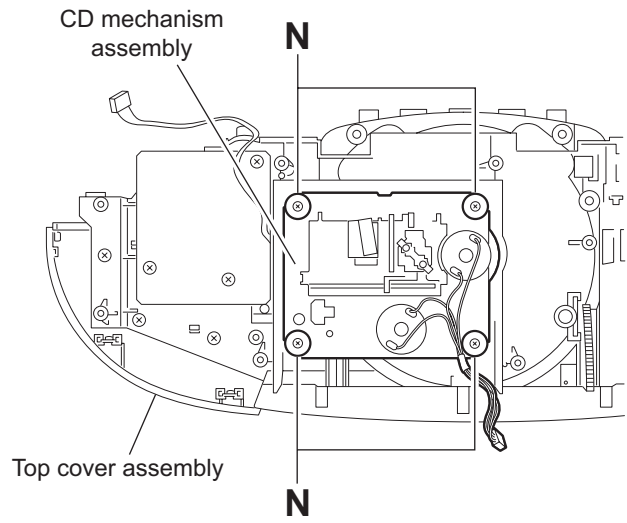

Fig.17
3.1.7 Removing the CD mechanism assembly (See Fig.17)